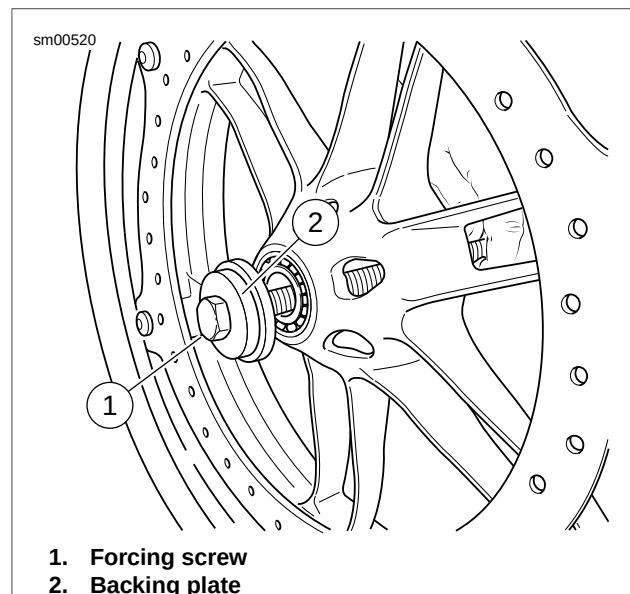

Figure 2-13. Insert Forcing Screw and Backing Plate
8. See Figure 2-13. Remove the backing plate (2) from the long forcing screw (1). Reinstall the Backing Plate onto the forcing screw (1), with the smaller diameter toward the hex-head.